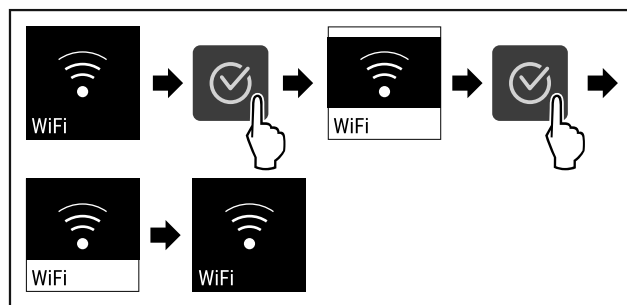

Fig. 77
- Complete the steps (see Fig. 77).